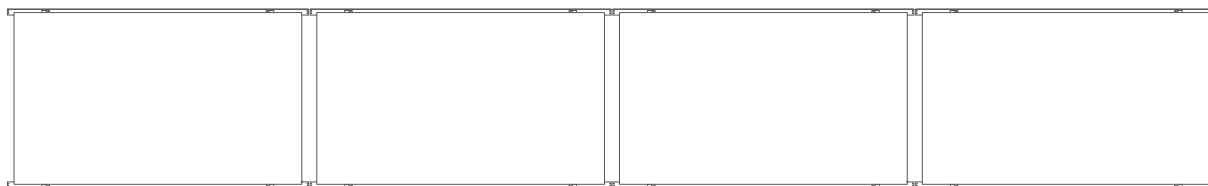
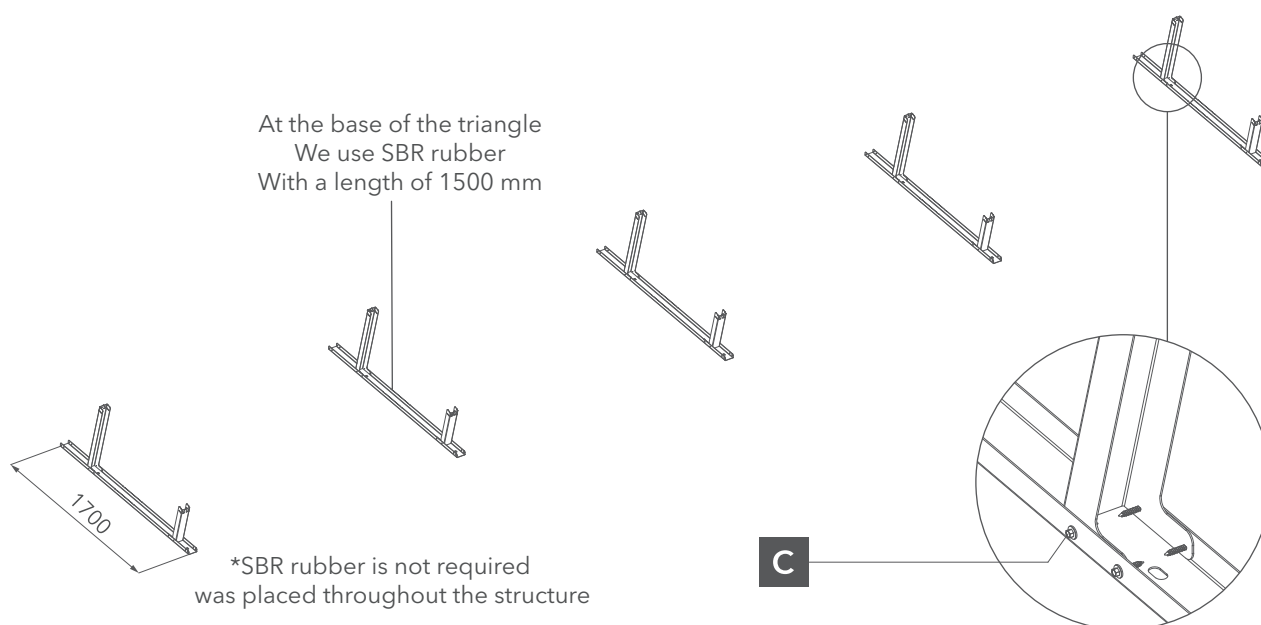

Fig. 1: Layout plan of the modules
Fig. 2 Arrangement of the mounting triangles
- 1 Before installation, the arrangement plan for the modules (Fig. 1) and the mounting triangles (Fig. 2) must be determined. and mounting triangles (Fig. 2). The method of fixing the substructure to the The method of fixing the substructure to the roof surface depends on the type of roof and is chosen individually.